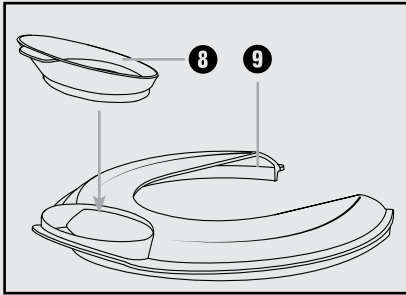

Fig. 2: Fitting the filling accessory
- If you wish, you can fit the filling accessory **8** onto the lid **9** (Fig. 2):